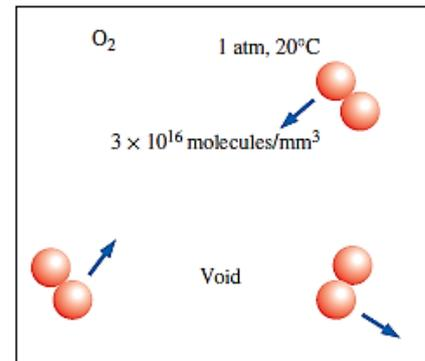

Fig.1.12 – Atoms in Gas Phase
The matter is made up of atoms. Atoms are widely spaced in the gas phase and matter may also have some voids as shown in Fig.1.12.
**For example,** consider a container filled with oxygen at atmospheric conditions. The diameter of the oxygen molecule is about  $3 \times 10^{-10} \text{ m}$  and its mass is  $5.3 \times 10^{-26} \text{ kg}$ . Also, the mean free path of oxygen at 1 atm pressure and  $20^\circ\text{C}$  is  $6.3 \times 10^{-8} \text{ m}$ . That is, an oxygen molecule travels, on average, a distance of  $6.3 \times 10^{-8} \text{ m}$  (about 200 times its diameter) before it collides with another molecule. Also, there are about  $3 \times 10^{16}$  molecules of oxygen in the tiny volume of  $1 \text{ mm}^3$  at 1 atm pressure and  $20^\circ\text{C}$  as shown in Fig.1.12.